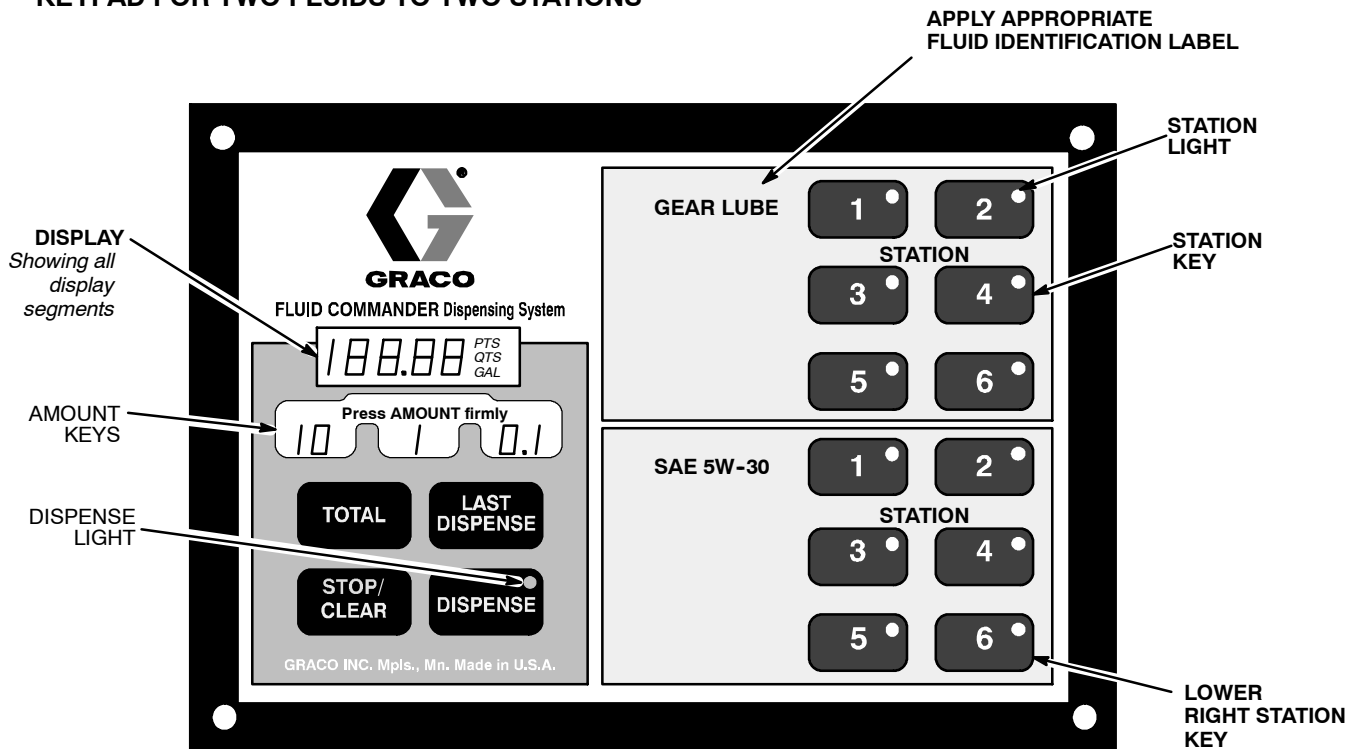

Fig. 8
Determine what fluids will be dispensed, and apply the appropriate labels within the raised area on the control, next to the station pads. See Fig. 8, page 11.
**NOTE:** Refer to Fig. 8, page 11.